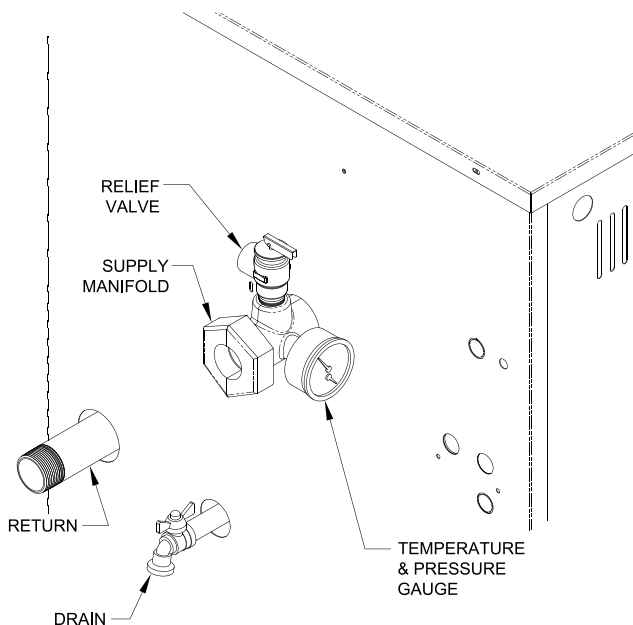

Figure 2: Near Boiler Piping
- C. Install Safety Relief Valve.** See Figure 2. Safety Relief Valve must be installed with spindle in vertical position.
- D. Connect system supply and return piping** to boiler. Refer to Figures 2, 4 and 5. Also consult Residential Hydronic Heating Installation and Design I=B=R Guide. Maintain minimum ½ inch clearance from hot water piping to combustible materials.